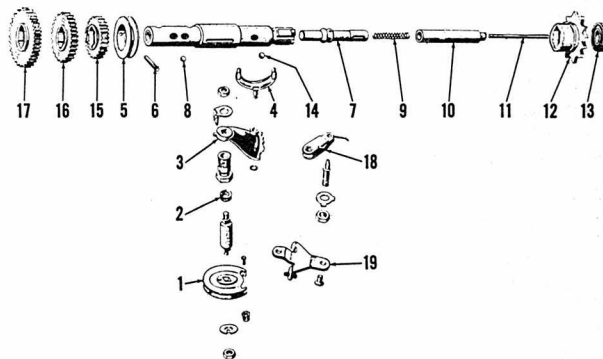

Fig. GA1-8—Exploded view of three speed transmission output shaft and gears.
**CRANKCASE AND GEAR BOX.** To separate the crankcase halves, first remove the engine assembly from the frame. Remove cylinder head, cylinder, piston and complete magneto assembly. Remove the output sprocket, clutch assembly and crankshaft primary drive gear. Remove the 9 screws attaching halves together and bump ends of crankshaft and transmission input shaft to separate the halves. Refer to Figs. GA1-8, GA1-9 and GA1-10.